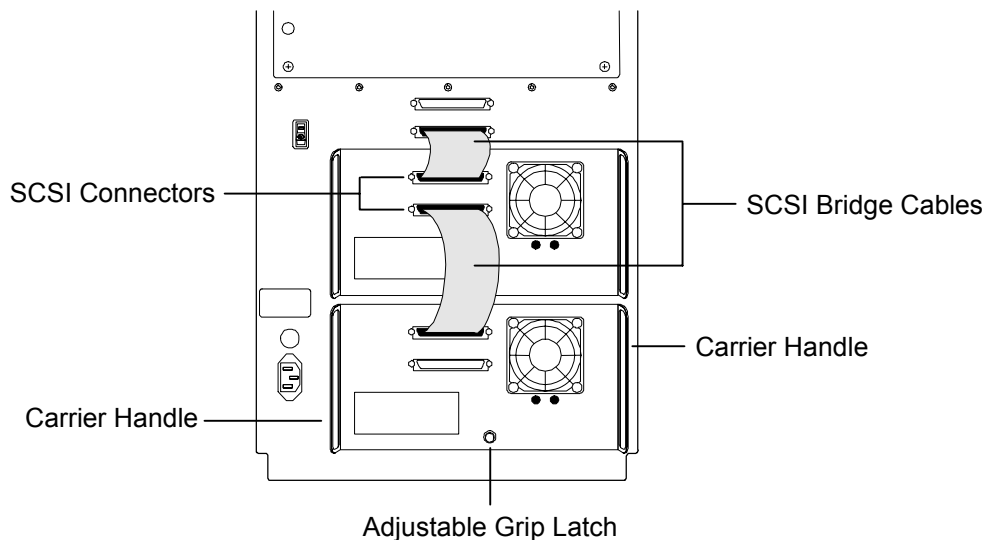

Figure 25 Tape Drive Assembly (Rear View)
*This procedure will lead you through the process of changing the operating firmware within a DLT or LTO Tape Drive Assembly. It involves removing the drive assembly from the TLS and replacing a 28-pin DIP Micro-controller integrated circuit (IC) on the Drive Carrier board. Contact Qualstar Technical Support (see the title block) to obtain the necessary integrated circuit(s).
2. Detach both SCSI cables (or SCSI cable and terminator) attached to the rear of the assembly (see Figure 25).
12. Turn the adjustable grip latch on the tape drive assembly all the way clockwise by hand, until it is finger-tight. Refer to Figure 25. Do not over-tighten.
13. Pull on the tape drive assembly's carrier handles to make sure that the tape drive assembly is locked in place. Refer to Figure 25.